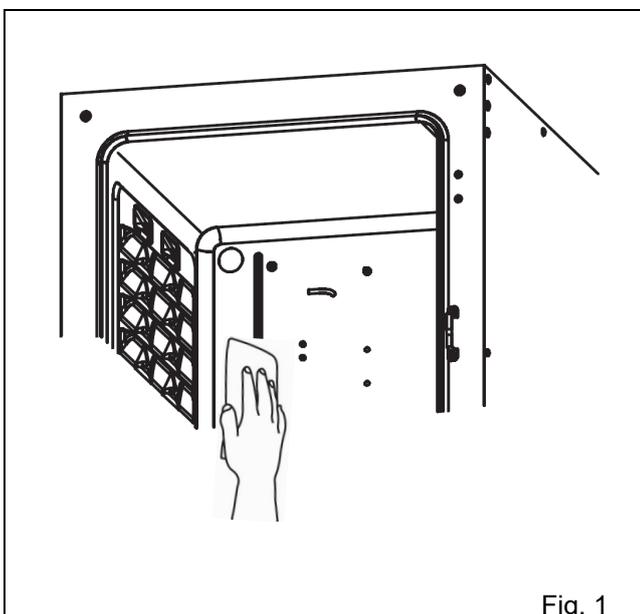

Fig. 1
3. Thoroughly wipe clean the inner walls of the chamber, the inner attachments, the temperature sensor, the humidity control bar, and the UV lamp using gauze moistened with a proper amount\*1 of alcohol for disinfection (Fig. 1). Make sure to take particular care in cleaning corners and joints of the product.